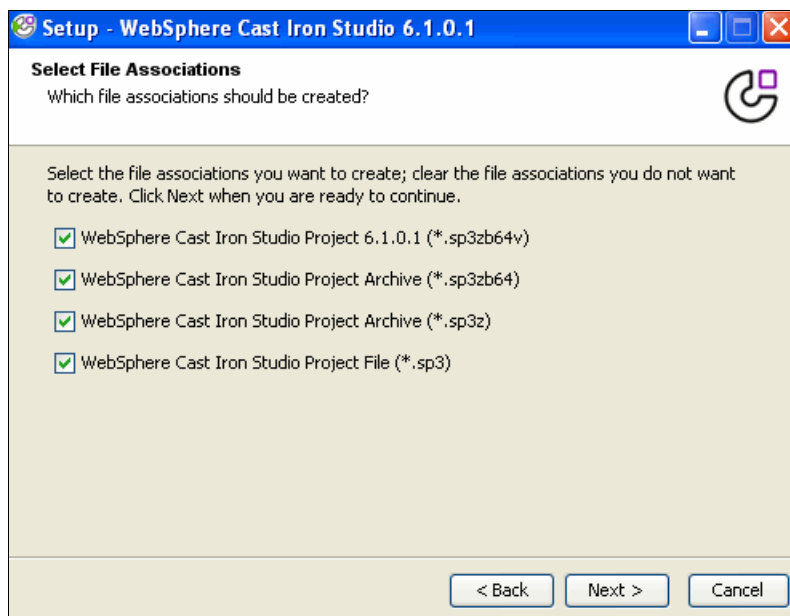

Figure 2-5 Studio installation File Associations
6. Accept the default options for File Associations, Figure 2-5, and then click **Next**.